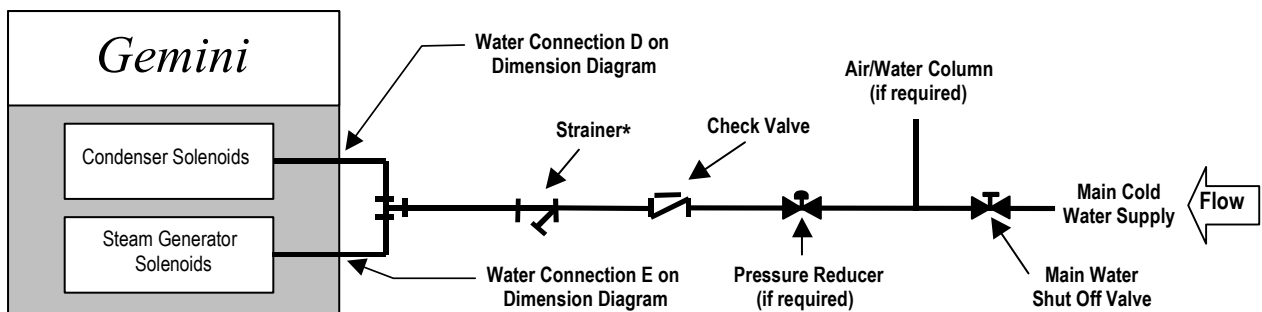
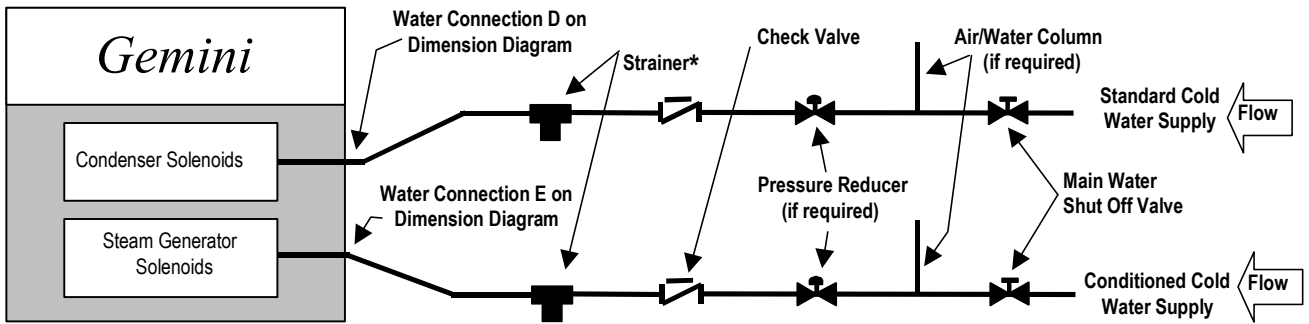

Figure 2-10 Cleveland Range Single Water Supply Arrangement
Figure 2-11 Cleveland Range Single Water Supply Arrangement when Using Separate Conditioned Feed Water Supply
- 3). The Gemini Steamers are supplied with two connection points for incoming water, one feeds the condensers and the second supplies feed water to the generators. If the local water supply is of poor quality (see Chapter 2, Section 6, Part a.1 for details of water quality), it is recommended that treated or otherwise filtered or conditioned water be used to supply the feed water to the generators. In the case of using a separate water supply, use the layout shown in Figure 2-11.
- a) Cleveland Range recommends the plumbing layout illustrated in either Figure 2-10, for installations using a single water supply or Figure 2-11 if a separate conditioned water supply is being used for boiler feed. Note: If using a single water feed to the system the supply piping to the tee fitting should be of at least the next largest size of pipe to the connection provided at the steamer.